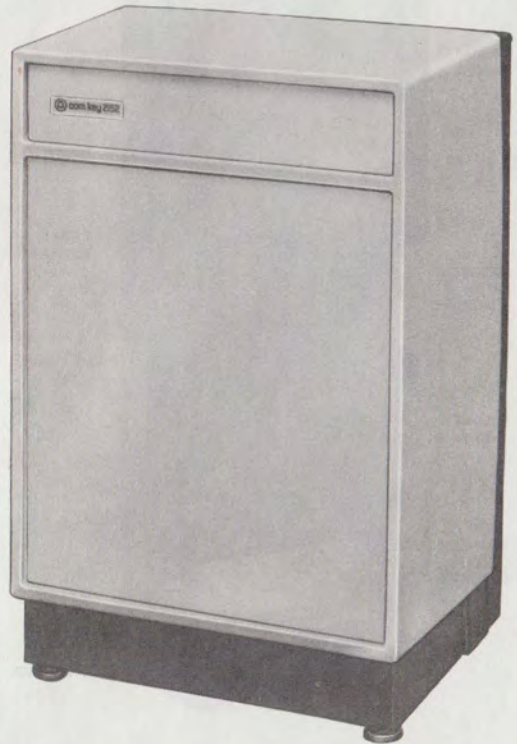

Fig. 37—♦154A Cover on 34C Cabinet♦
8.04 A 154A cover (Fig. 37) can be used with a 34C cabinet, or a 154B cover with a 34D cabinet, to provide a more finished appearance in